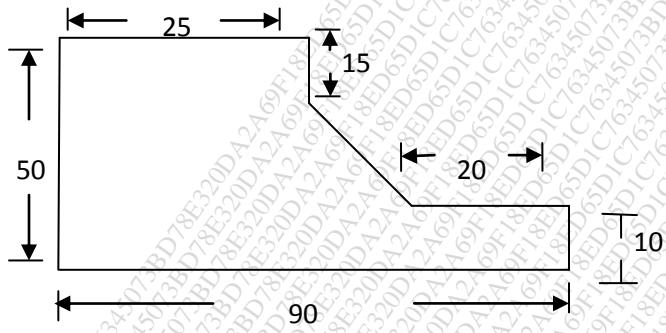

Fig.1
b) A profile milling operation is to be performed to sense the outline of the part as shown in the fig. 1 08